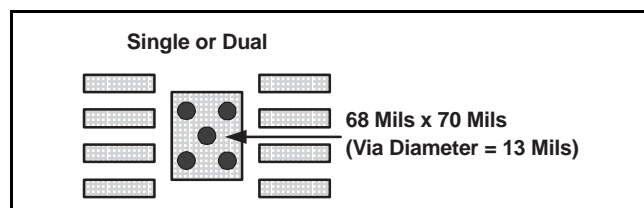

Figure 90. PowerPAD PCB Etch and Via Pattern
1. Prepare the PCB with a top side etch pattern as shown in Figure 90. There should be etching for the leads as well as etch for the thermal pad.